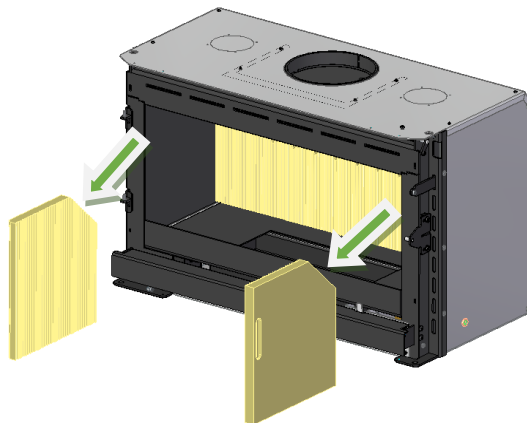

Figure 41 – Removing the vermiculite sides of the equipment
3. Remove the 2 pieces from the sides, moving towards the centre of the equipment and back towards the outside of the equipment, Figure 41.
d. After all these parts are removed, the ventilation kit can be removed from the equipment, see Figure 41. To reassemble it, you will have to proceed with the inverse assembly process.